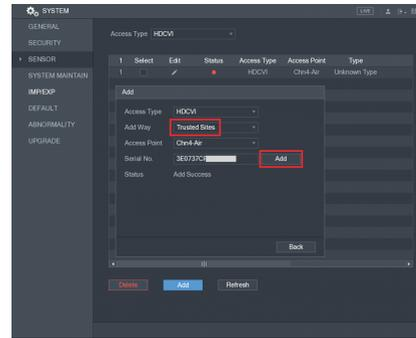

Figure 5-5
- Select “Access Type” as “HDCVI”, “Add Way” as “Trusted Sites” and “Access Point” as the connection channel between camera and XVR device, input the serial number of node device in “Serial No.” (Please see serial No. on the device label), which is shown in Figure 5-5.